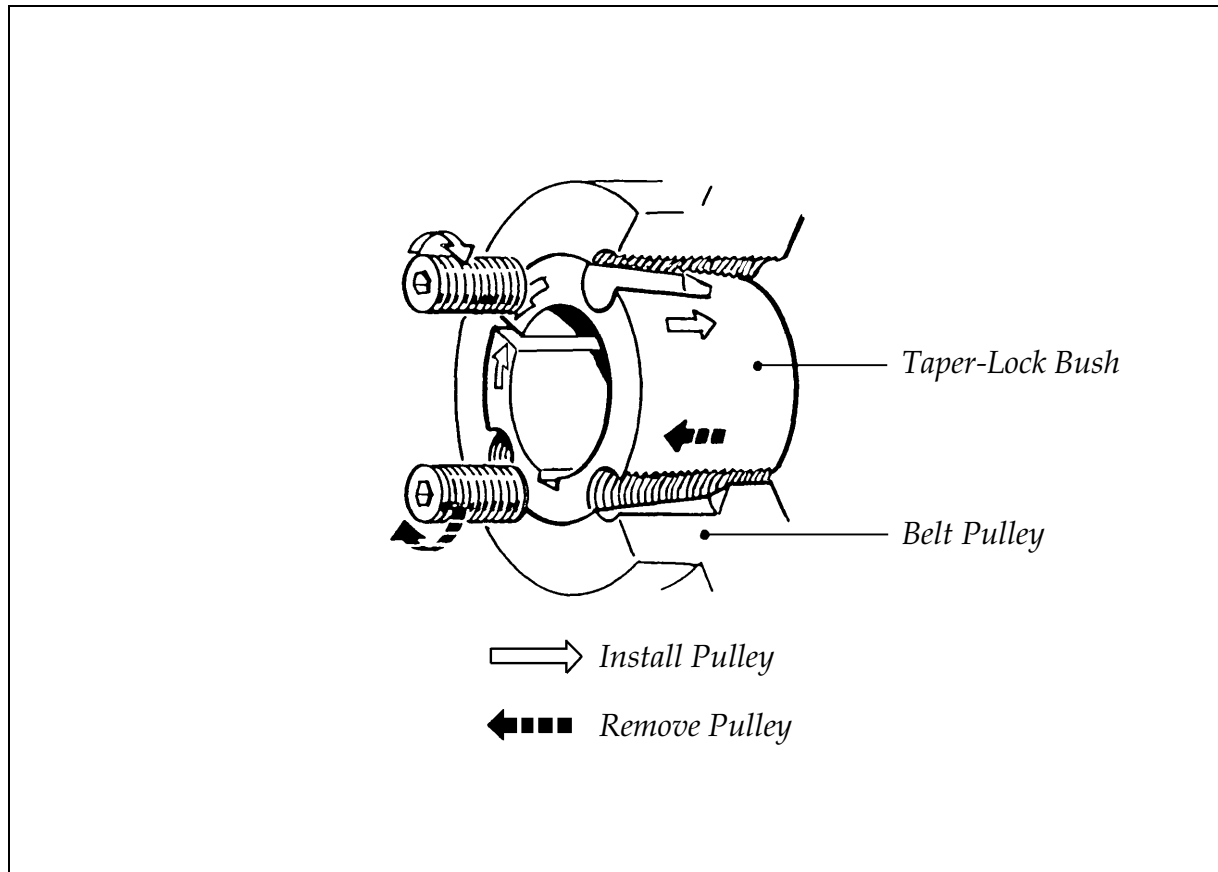

Figure 4.5.1
4.5.1 Belt Pulley with 'Taper-Lock' Bush (Fig. 4.5.1)
Figure 4.5.1 illustrates a hub of a belt pulley secured with 'Taper-Lock' bush.
4.5.2 Remove Belt Pulley (Fig. 4.5.1, Lower Half of Sketch)
4.5.3 Install Belt Pulley (Fig. 4.5.1, Upper Half of Sketch)